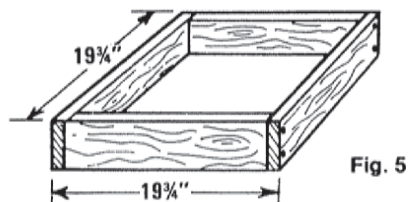

Fig. 5
6. Build a frame for the shutter with 2" x 4" nominal lumber to the dimension shown. (See Fig. 5)